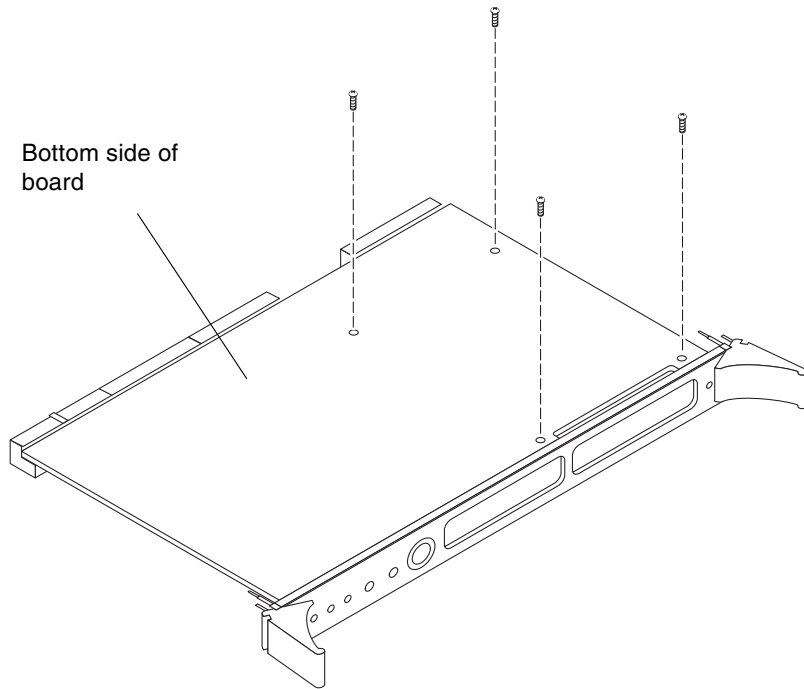

FIGURE 2-7 Securing the PMC Screws
9. Turn the Netra CP2300 board over and use a screwdriver to secure the four screws that attach the PMC to the Netra CP2300 board (FIGURE 2-7).